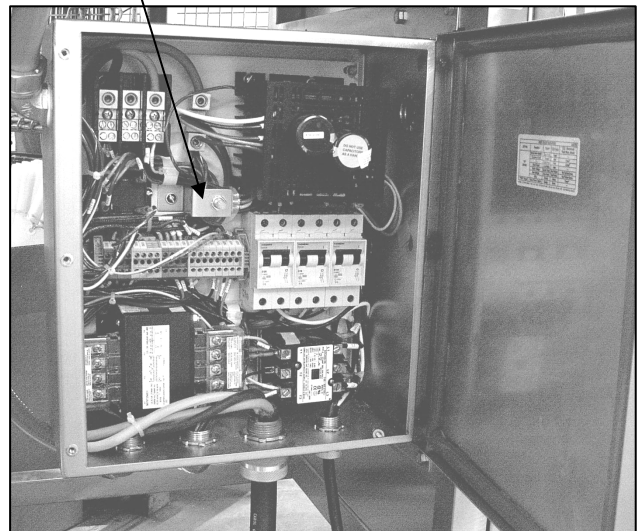

Figure 3-6. Electrical Panel.
4. Glazer: 60% This adjustment needs to be made according to the thickness of your glaze. See Figure 3-6
Turn the glazer speed control potentiometer counterclockwise to increase flow of glaze or clockwise to decrease flow of glaze. See Figure 3-6.